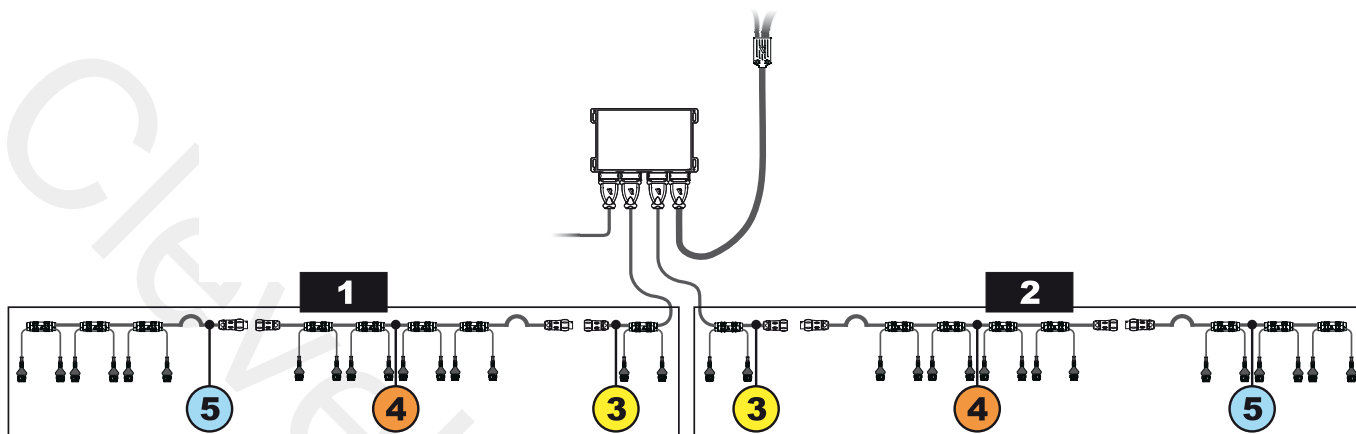

Fig. 18
**1** The Seletron units are connected to the RCU (Fig. 18) via two main wiring harnesses (**1** and **2**), each made up of three types of cables: head-end cable (**3**), extension cable (**4**) and termination cable (**5**); the termination cable is indispensable in order to close circuit. **The system will not operate without a termination cable.**